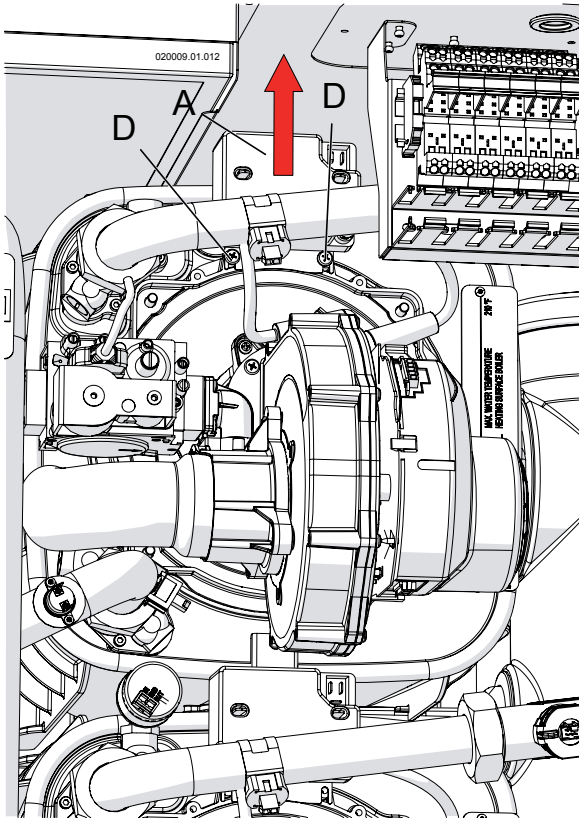

Figure 16-3 - Remove the spark generator
- 3.- Loosen screws "D" (Figure 16-3) and move up the spark generator "A" (Figure 16-3);